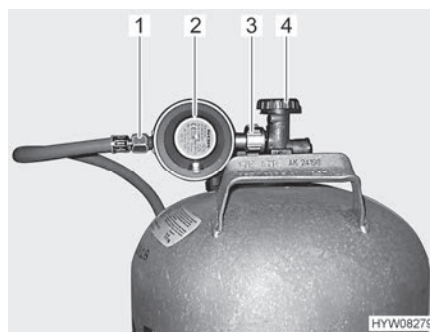

Fig. 61 Gas bottle connection
- Close the regulator tap (Fig. 61,4) on the gas bottle. Pay attention to the direction of the arrow.
- Hold the gas pressure regulator (Fig. 61,2) and open the knurled nut (Fig. 61,3) (normally a left-hand thread).
- Remove the gas pressure regulator and the gas tube (Fig. 61,1) from the gas bottle.
- Position the gas pressure regulator (Fig. 61,2) with gas tube (Fig. 61,1) on the gas bottle and tighten the knurled nut (Fig. 61,3) (normally a left-hand thread). **Do not** tighten too firmly.